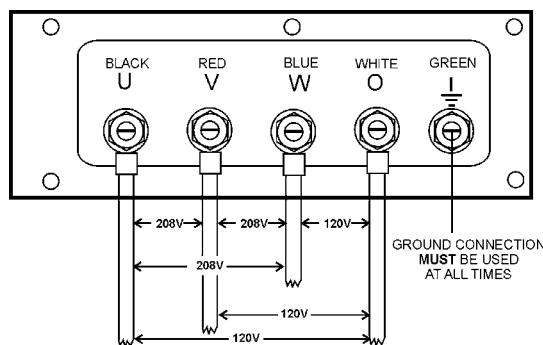

Figure 13. UVWO Terminal Lugs 3Ø-208V/1Ø-120V Connections
1. Connect the load wires to the UVWO terminals as shown in Figure 13.